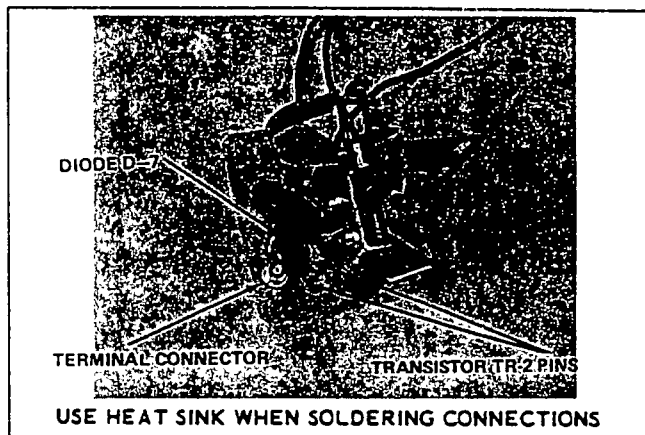

Figure 17
G.) While cranking the engine, short the case of transistor TR-2 (figure 17) to the case with a screwdriver. If the choke solenoid operates, replace transistor TR-2 (part #352201). Use normal precautions to protect the new transistor during installation and make sure the mica-washer is installed.
If the choke solenoid does not operate and arcing occurs with the transistor grounded, replace both transistor TR-2 (part #35220) and diode D-6 (part #26064). (See figure 17.) If no arcing is observed and the choke solenoid is inoperative during the test, replace the choke solenoid (part #36452) and diode D-6 (part #36064).
H.) Remove the choke assembly from the carburetor. Remove the choke cover. Melt the solder that holds wire #19 to the transistor pin and pull the wire free of the pin (figure 17). Remove the other wire. Remove the transistor with its mica washer. Remove diode D-7 from its terminal connector. Install a new transistor TR-2 and mica washer. Install a new diode D-7. Use a "heat sink" when soldering wires to both the transistor and the diode to prevent damaging the new components.